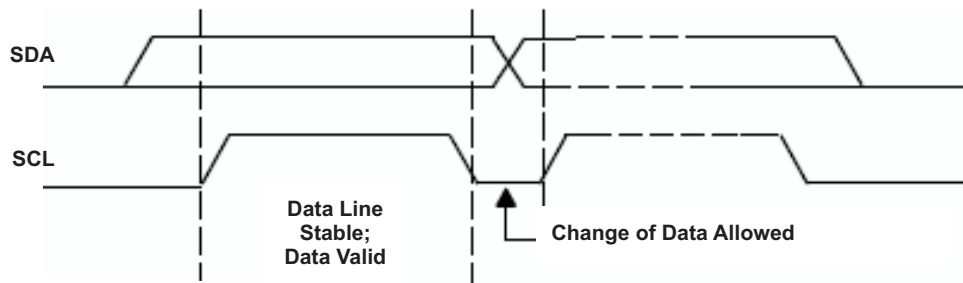
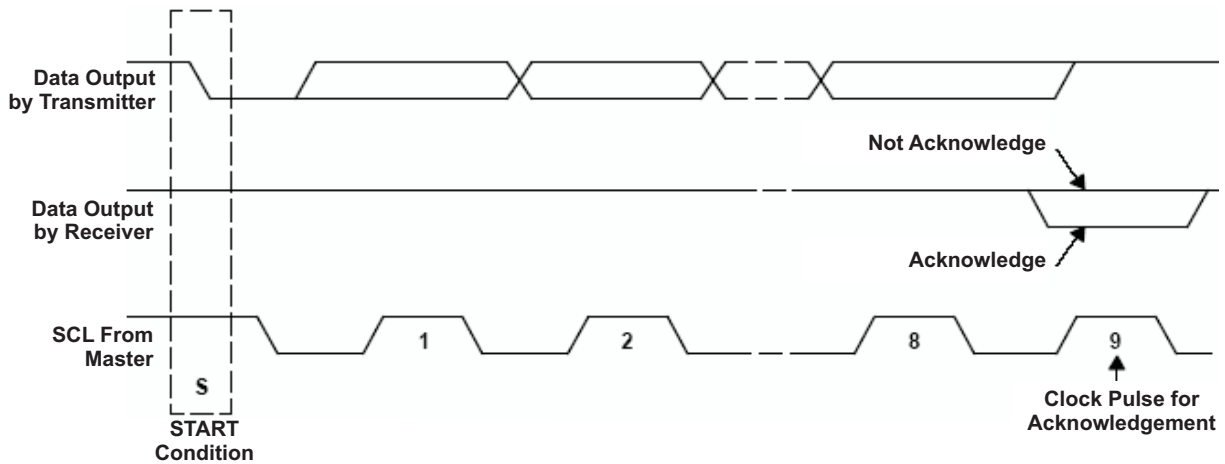

Figure 24. I²C Bit Transfer
Figure 25. I²C Acknowledge
- The master initiates data transfer by generating a *start condition*. The *start condition* is when a high-to-low transition occurs on the SDA line the SCL line is high, as shown in Figure 25. All I²C-compliant devices should recognize a *start condition*.
- The master generates the SCL pulses and transmits the 7-bit address and the *read/write direction bit* R/W on the SDA line. During all transmissions, the master ensures that data is *valid*. A *valid data condition* requires the SDA line to be stable during the entire high period of the clock pulse (see Figure 24). All devices recognize the address sent by the master and compare it to their internal fixed addresses. Only the slave device with a matching address generates an *acknowledge* (see Figure 25) by pulling the SDA line low during the entire high period of the ninth SCL cycle. On detecting this acknowledge, the master knows that a communication link with a slave has been established.